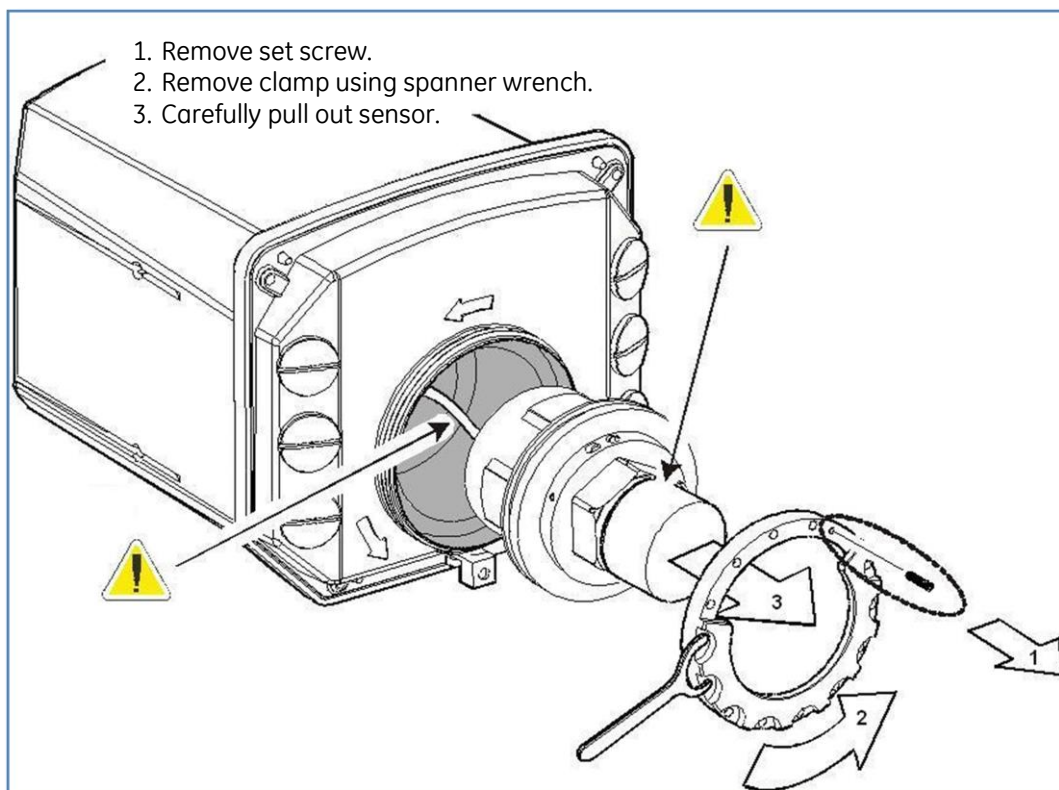

Figure 5-3: Separating the Sensor from the Hydran M2-X
1. Remove the set screw (arrow 1 on Figure 5-3 that secures the Hydran M2-X and its sensor together.
4. Disconnect the connector located at the back of the sensor (see Figure 5-3).